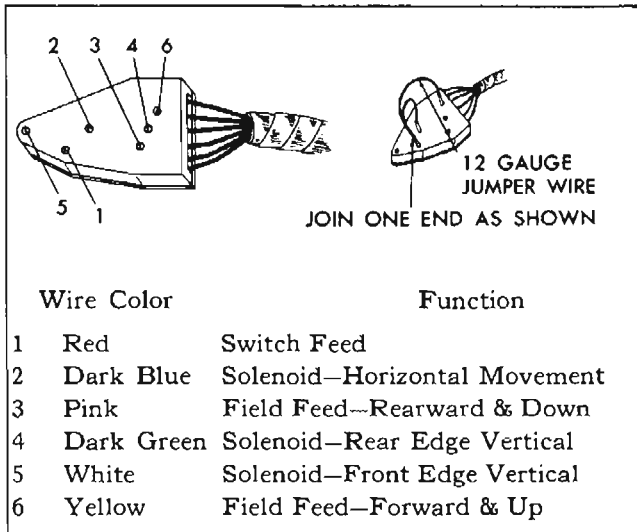

Fig. 8-9 Six-Way Seat Control Block Switch Wiring Installation
1. Connect one light tester lead to feed terminal of switch block and ground other test lead to body metal (Fig. 8-9).
that has been checked for proper operation may be connected to the switch block. If a switch is not available, a three-way jumper wire can be made to perform the switch function. The jumper wire and the switch locations to be connected to obtain a specific movement of the seat are shown in Fig. 8-9. If a jumper wire is used, number the locations on the switch block as indicated in the illustration. Details outlining the making and use of the jumper wire follow the checking procedures.
To make jumper wire, obtain two pieces of No. 12 gauge wire, each $4\frac{1}{2}$ " long. Join one end of each wire as shown in Fig. 8-9. The joined end can be inserted in the feed location in the switch block; one